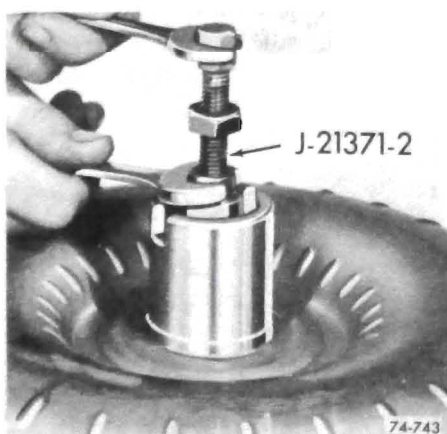

Figure 76-743
- a. Install Tool J-21371-2 and tighten brass nut. See Figure 76-743.